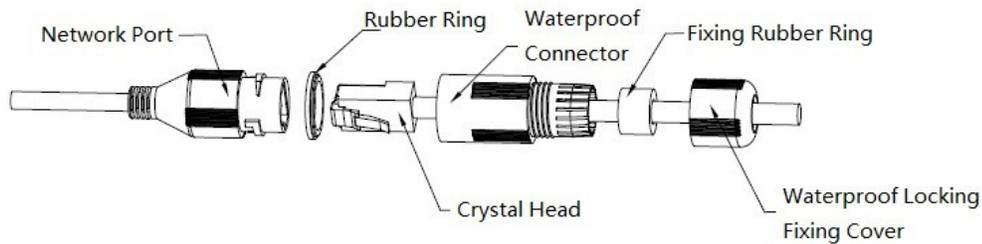

Figure 2-4
- Step 7** Install the waterproof connector (optional), which is shown in Figure 2-4.